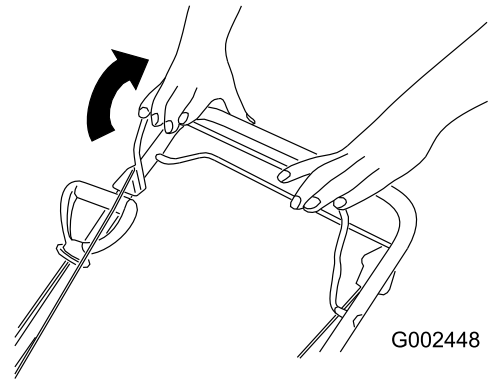

Figure 18
3. Hold the blade control bar (Figure 18) against the handle.